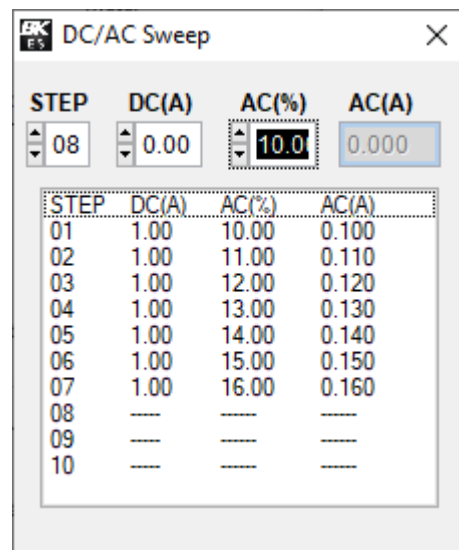

Figure 6.4 DC/AC Sweep
- A separate window will appear allowing for customization of 10 steps(sweeps). See Figure 6.4